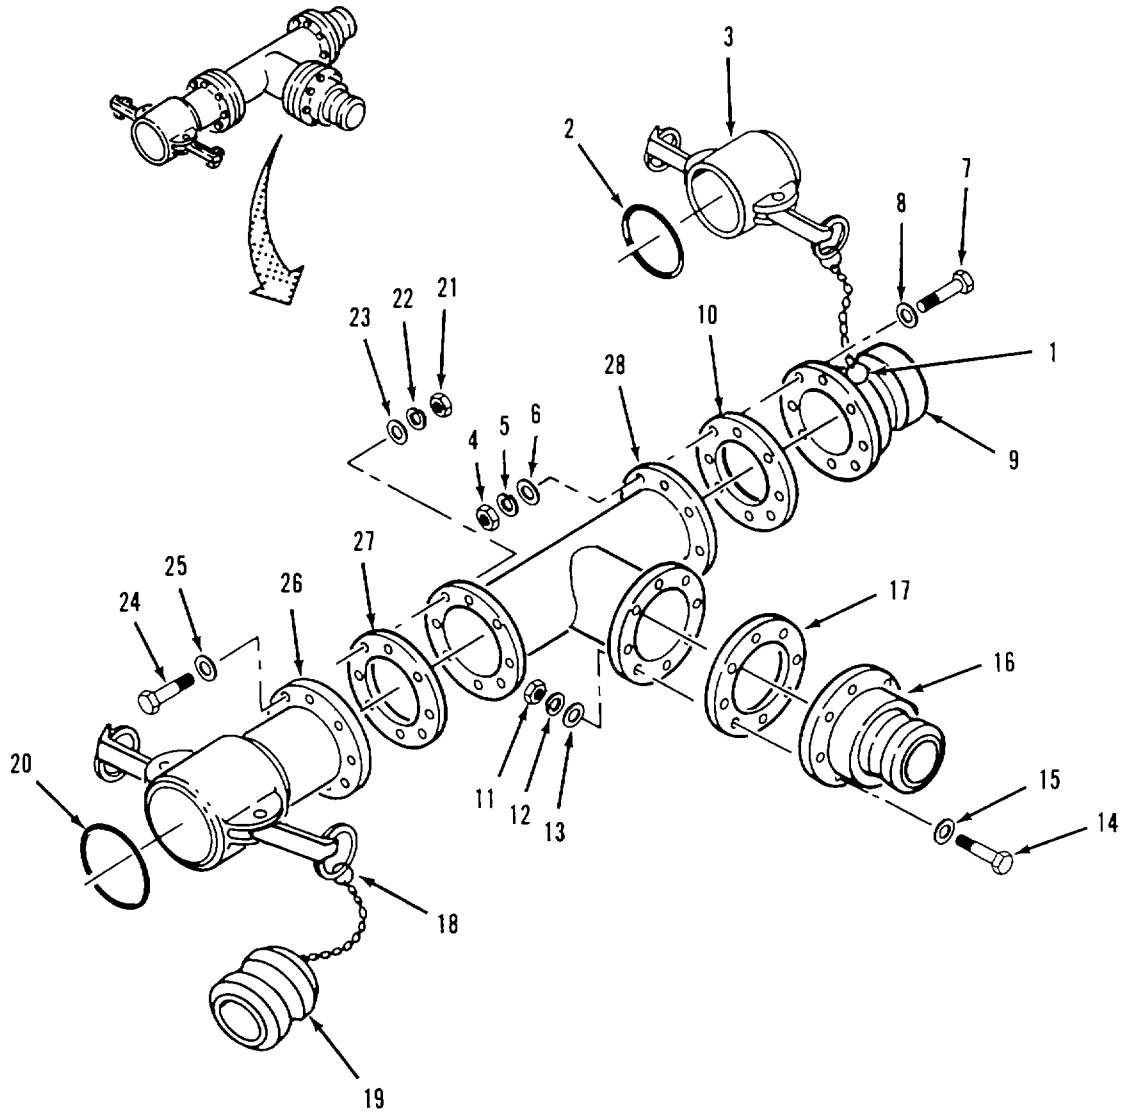

Figure 4-41. Tee Assembly (9115-Y1) Assembly.
- (1) Inspect male couplings (9 and 16) for cracks.
- (2) Inspect female coupling (26) for cracks and damaged lock arms.
- (3) Inspect tee (28) for cracks and corrosion.
d. Repair. Replace defective components Do not reuse sealing components.e. Assembly. Refer to figure 4-41.
- (1) Position gasket (27) and female coupling (26) on tee (28).
- (2) Install eight flat washers (25), screws (24), flat washers (23), lockwashers (22) and nuts (21).